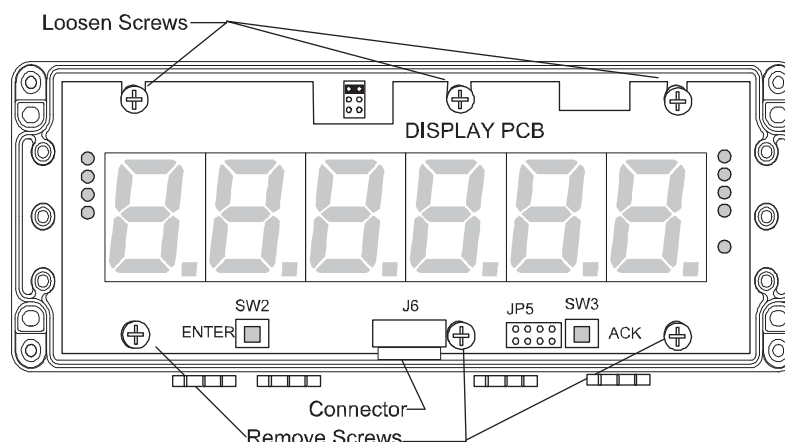

Figure 1. Removing the Display Board
2. Loosen the top three mounting screws holding the Display Board (see Figure 1).
1. Slide the Display Board under the top three screws (see Figure 1). Make sure the ribbon cable is connected to the connector on the Display Board.